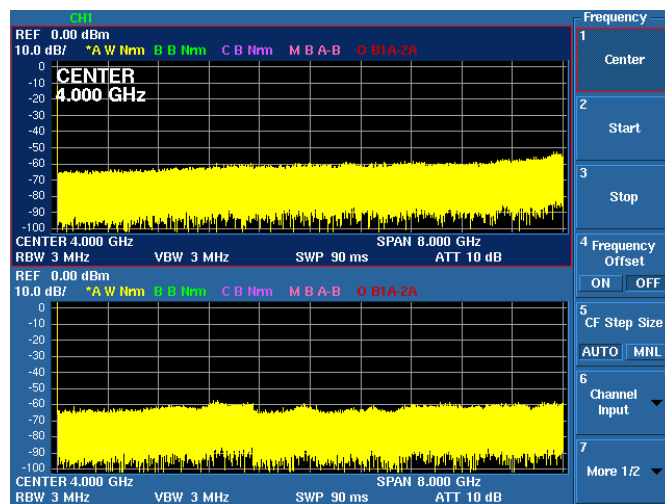

Figure 3-7 Initial Screen
5. The result of the self-diagnostics and the initial screen are displayed. The initial screen display may differ from Figure 3-7 depending on the status of the settings when the power supply was last turned off.